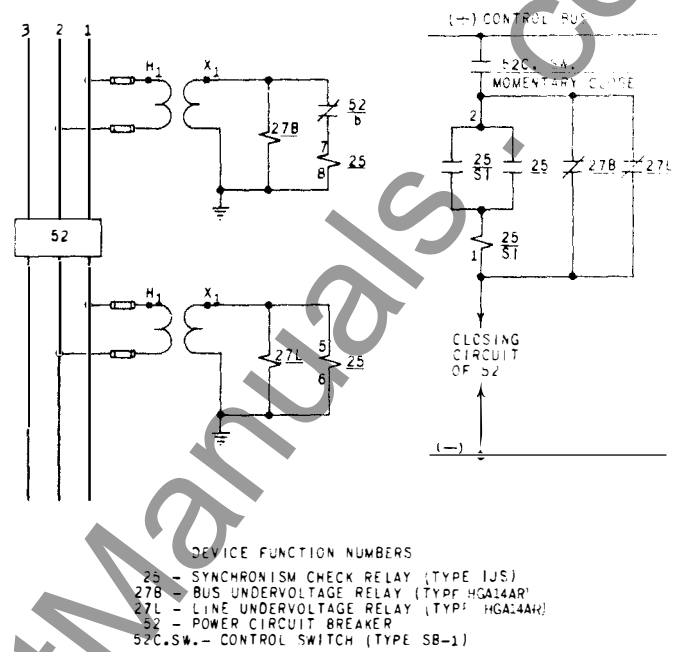

Fig. 11 (6209561-4) Typical Elementary Diagram Of External Connections Type IJS Relays
A typical elementary diagram of external connections is shown in Fig. 11. The "B" contact of 52 in series with only one coil circuit serves to reset the disk and contacts promptly after the circuit breaker closes, so that the normal delay is available as soon as possible in case the breaker trips again. Additional relays (undervoltage or reclosing) may be considered desirable for prevention of unlimited reclosures in case of one wire broken and grounded or crossed with another phase.
1. Check that the maximum closing angle for pick-up of the synchronizing check unit agrees approximately with the value shown on the curve in Fig. 11.